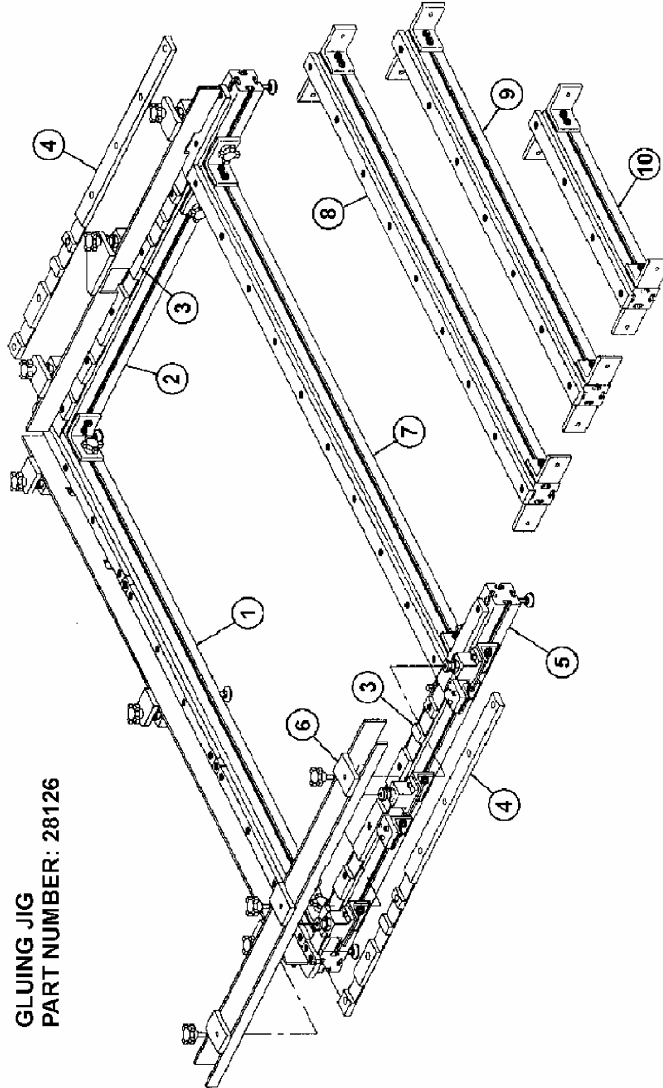

FIGURE 14: GLUING JIG SETUP DIAGRAM
- **For more information, refer to gluing jig setup diagram (Fig. 14).**